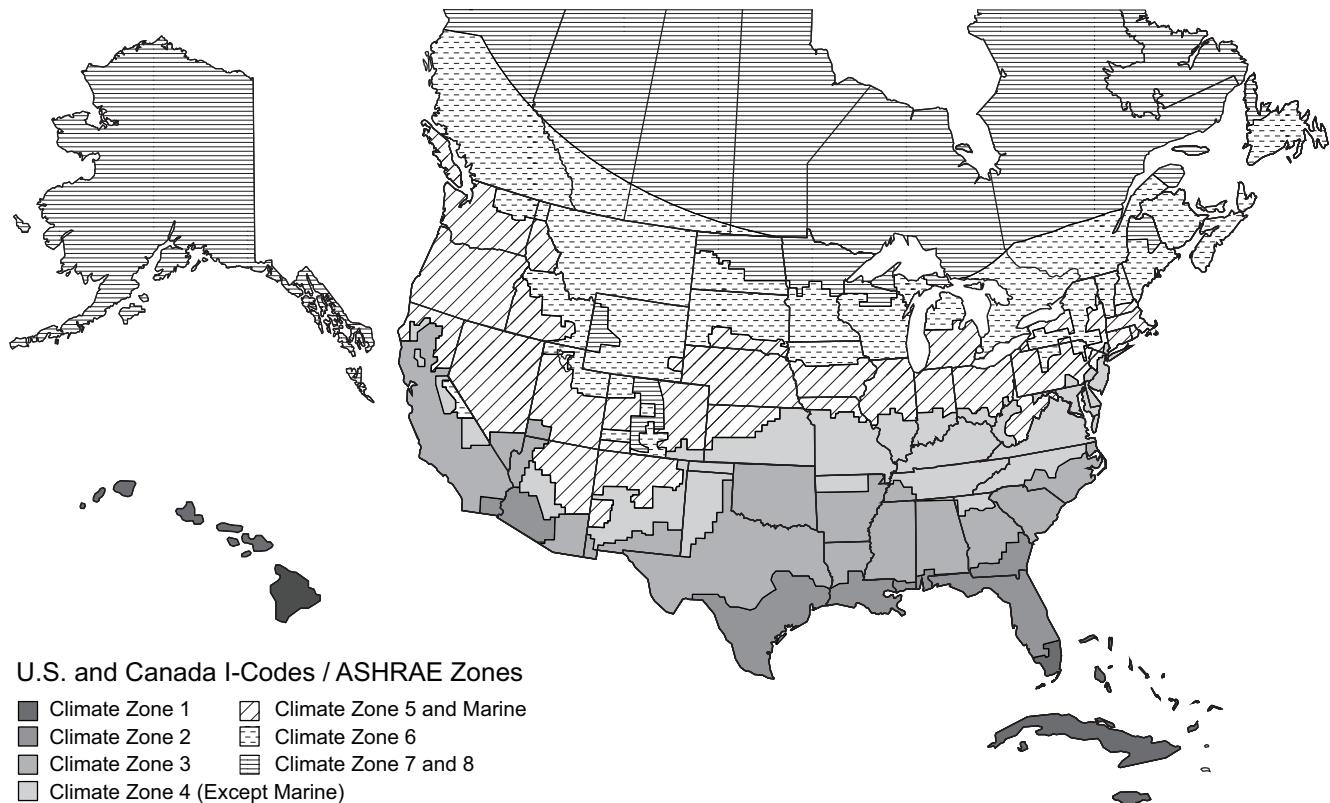

Fig. 94 — U.S. and Canada Climate Zones
- See Fig. 94 for map of U.S. and Canada climate zones.